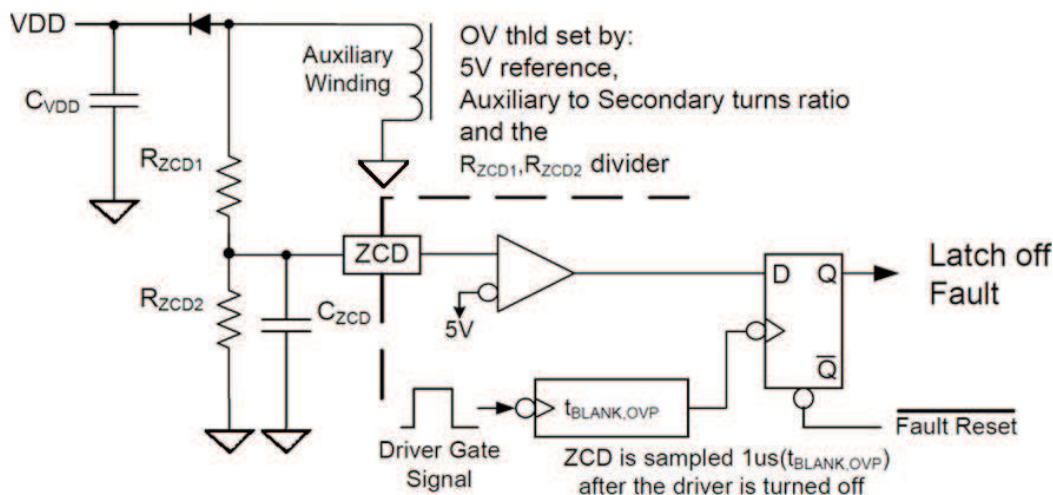

Figure 20. Output Over-Voltage Protection with ZCD Pin
The output over-voltage (OV) threshold is set using the turn ratio of the auxiliary winding to the output secondary and a resistive divider into the ZCD input pin. The UCC28610 will always enter a latched-off state if it detects an OV condition. The VDD supply must cycle below the fault reset threshold to re-start in order to recover. The functionality of the over-voltage detection function is shown in Figure 20.